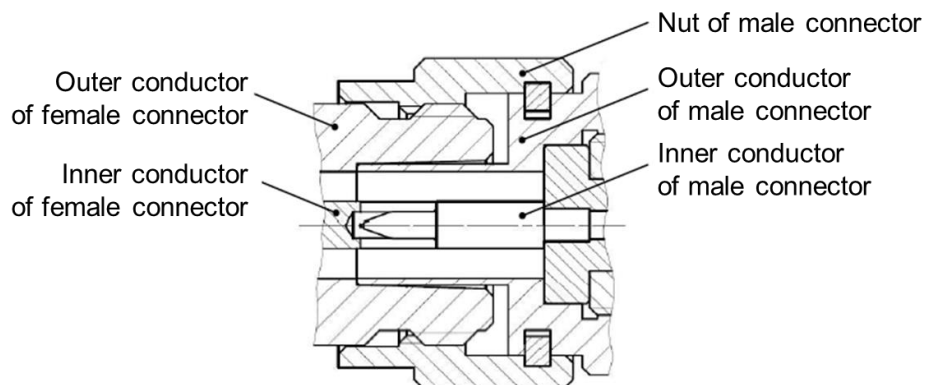

Figure 7. Connection example
- Rotate the nut of the male connector allowing the threads to engage so that the inner conductor of the male connector was inside the inner conductor of the female connector (see figure 7).